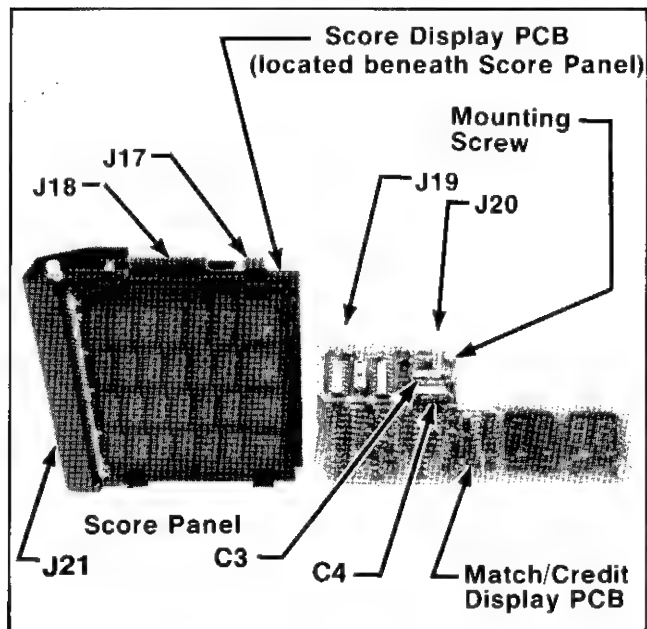

Figure 6-10 Top View of Score and Match/Credit Display Assembly
3. Connect a voltmeter across the following capacitors shown in Figure 6-10, and check for the readings listed below:
5. Examine the positions of the terminal pins on J21. Tips of the pins should be aligned in the same plane, as shown in the detail view of Figure 6-10. If not bent out of alignment, all pins can then make contact with the score panel's terminal strips when the panel is plugged in.
1. Using both hands, grasp the right-hand edge of the panel and carefully slide it fully into connector J21. Then lower the edge down until the entire panel rests in the bracket arms. Adjust the two nylon screws on each side of the score panel connector until score panel terminals are perfectly aligned (refer to Figure 6-10). At the factory a rubbery substance called RTV was placed between the bracket arms and the score panel. This substance provides a cushion between the glass panel and the metal arms, and positions the panel so that connector J21's terminal pins line up exactly with the panel's terminal strips.